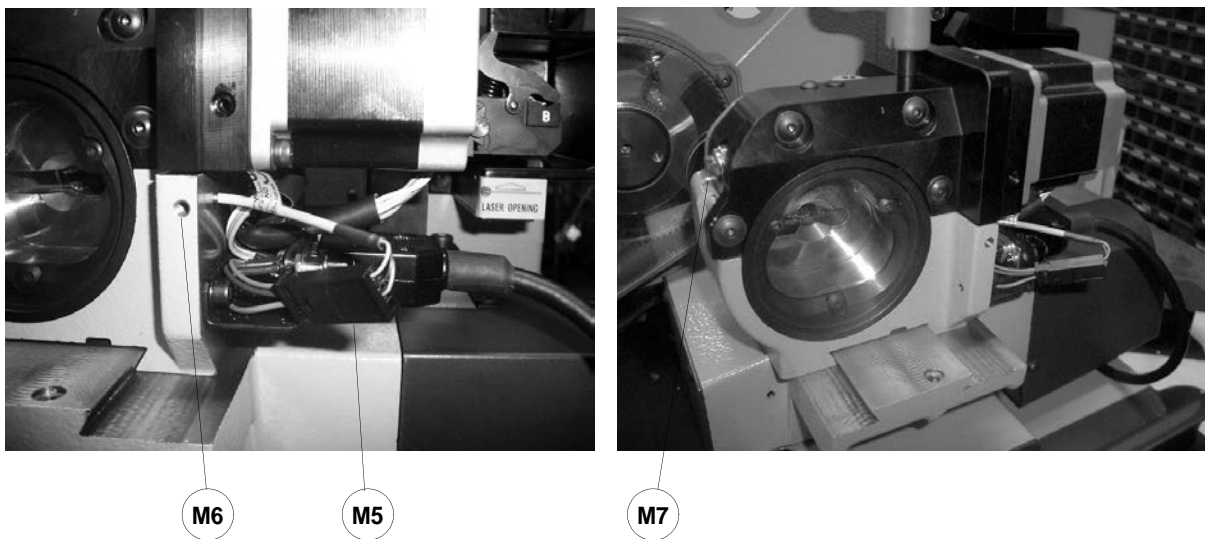

Fig. 147
- 4) disconnect the sensor connector (M5) (fig. 147).